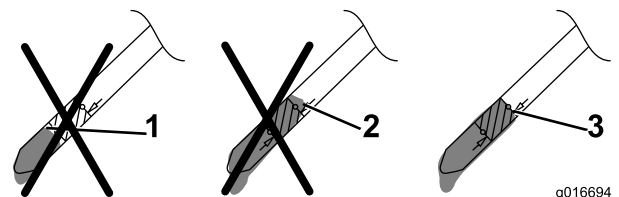

Figure 34
12. Read the oil level on the dipstick (Figure 34).
- If the oil level is too low, **slowly** pour a small amount of oil into the oil-fill tube, wait 3 minutes, and repeat steps 10 through 12 until the oil level is correct as shown in Figure 34.